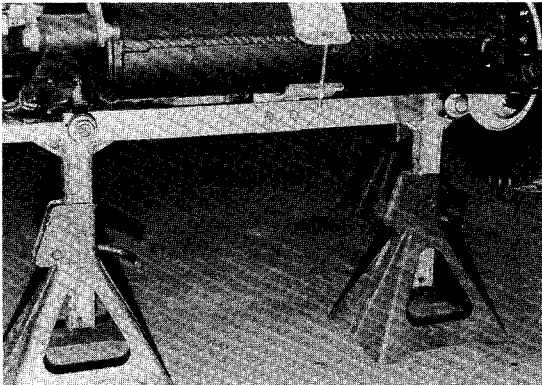

Figure 11-11
9. Place floor jack under engine mounting plate, raise slightly to make contact with engine mounting plate and place jack stands under inner frame spring retainer plates (**Figure 11-11**).